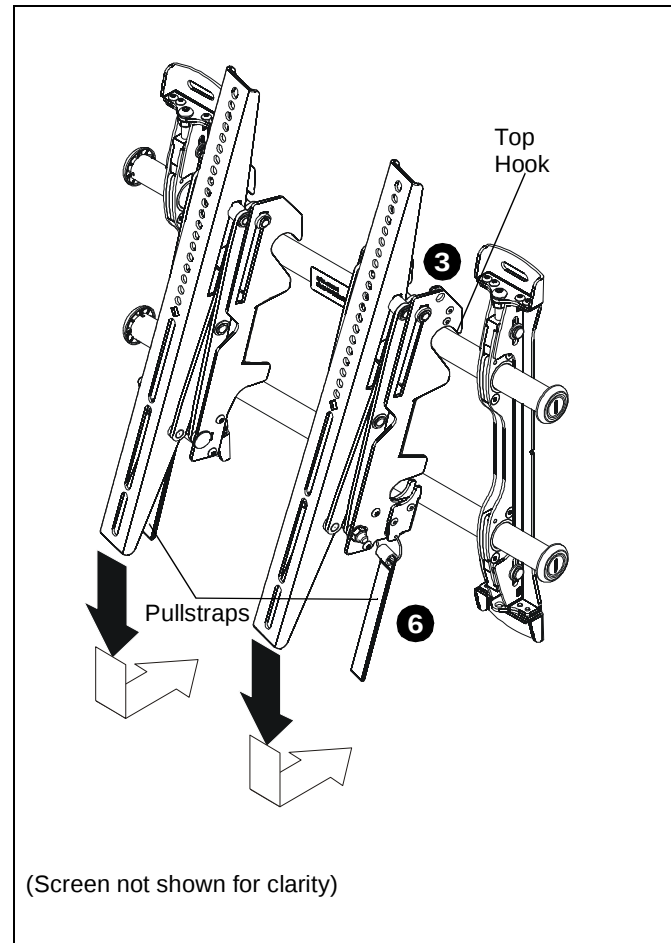

Figure 12
6. Pull downward on the pullstraps and swing inward toward wall, latching interface brackets to lower bar and locking bottom of screen to the mount. (See Figure 12)
3. Hang top hook of interface brackets (U and V) onto the top bar of the mount (R). (See Figure 12)